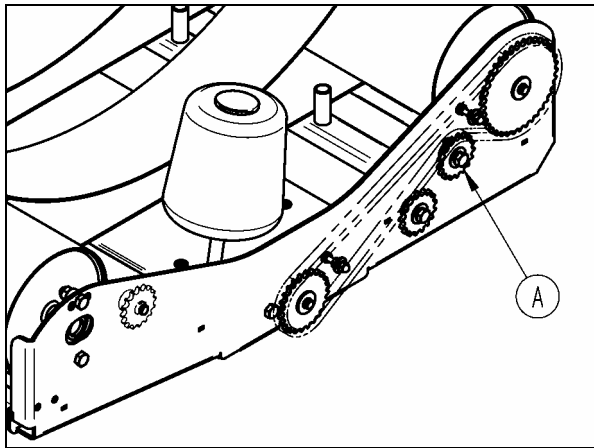

fig. 36 – Tensioning pinion
- For the possible chain setting, to operate on the tensioner pinion (fig.36, A).